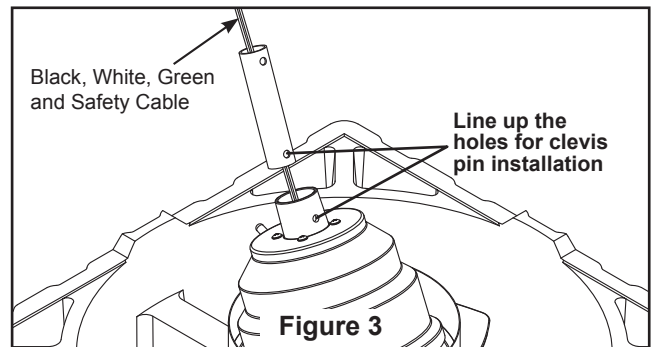
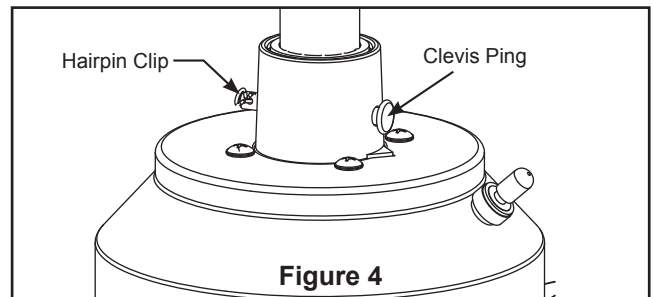

Figure 3
Figure 4
2. The fan comes with black, white and green wires, as well as a safety cable. Separate and untwist the wires. Route the wires and safety cable through the downrod. (Figure 3)
3. Be sure to line up the holes while pushing the downrod into the downrod support prior to installing clevis pin and hairpin clip. (Figure 3 & Figure 4)